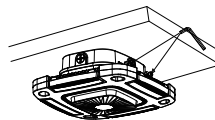

Figure 2-8
8. Lock the two cap screws. Figure 2-8